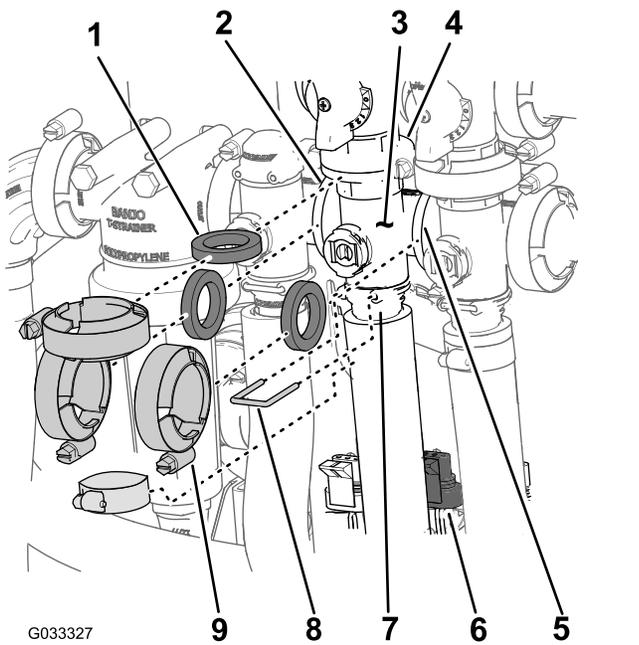

Figure 64
1. Remove the clamps and gaskets that secure the manifold for the agitation valve (Figure 64) to the agitation-bypass valve, rate-control valve, master-boom valve, and adapter fitting (agitation-throttle valve).
2. Remove the retainer that secures the outlet fitting to the manifold for the agitation valve (Figure 64).